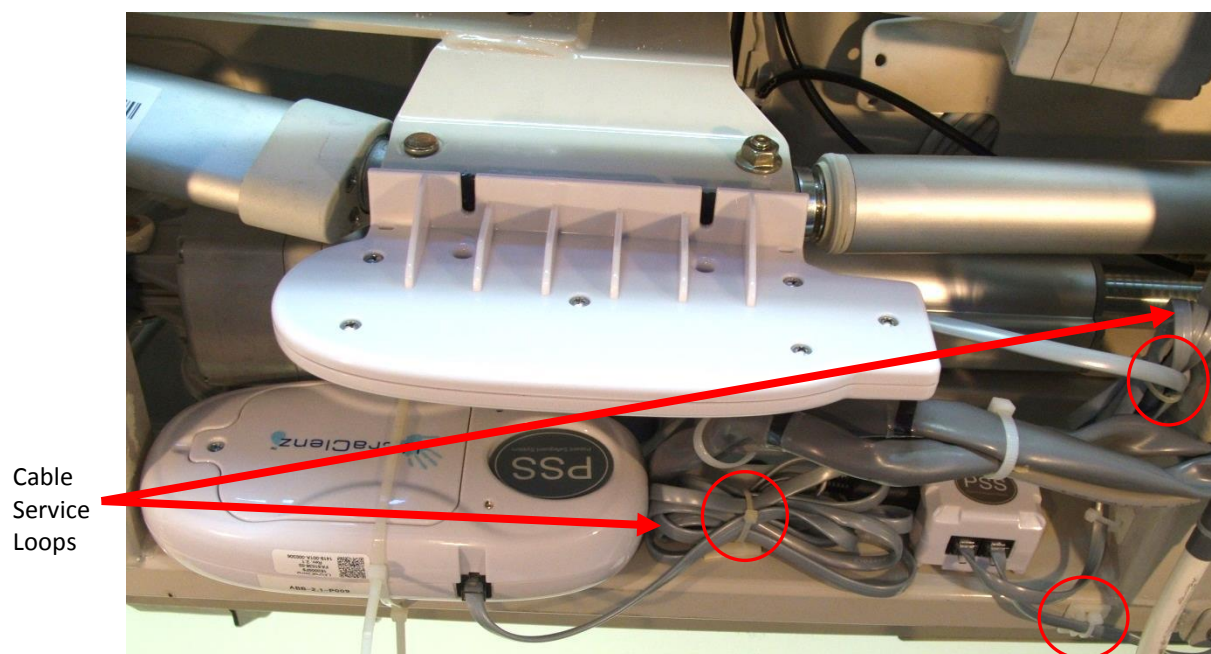

Figure 10. Bed Antenna, ALP Sensor and Bed Beacon Cable Routing to Dock
4. Place cable tie holders, route and tie the Bed Beacon and all remaining cables as shown (see *Figure 10*). After all cable management is complete, use small wire cutters and carefully flush cut off and dispose of all cable tie ends.